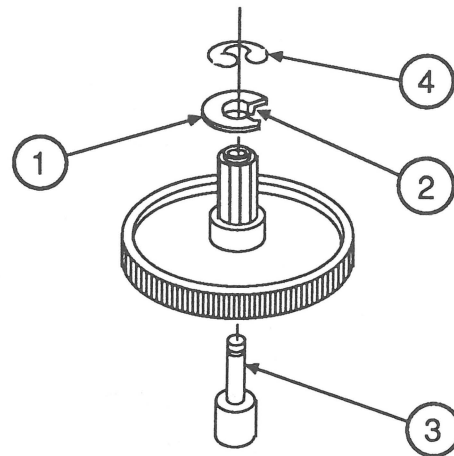

FIGURE 23
3. Replace the plastic washer (Figure 23, #1), flange side (Figure 23, #2) down, on the gear pulley shaft (Figure 23, #3) and secure the washer with the small E-clip (Figure 23, #4).